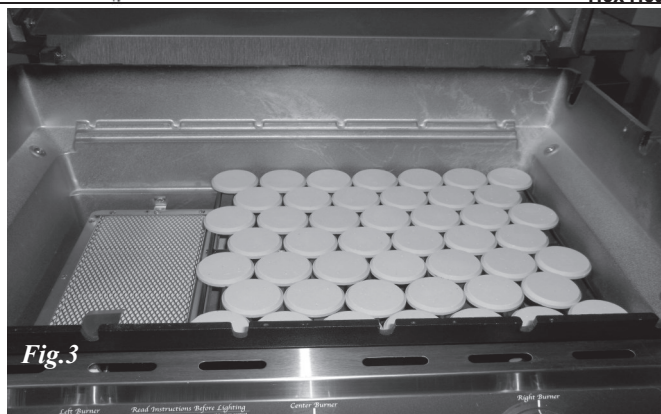

Fig. 3
ATTACHING SHELF TO BRACKET (Fig. 3)
9. Place the Briquette Grate on the shelf edge just above the 2 Oval Cast Stainless Steel Burners. Fig. 3
10. Carefully place the 46 Porcelain Briquettes on the grate in the pattern shown. Fig. 3